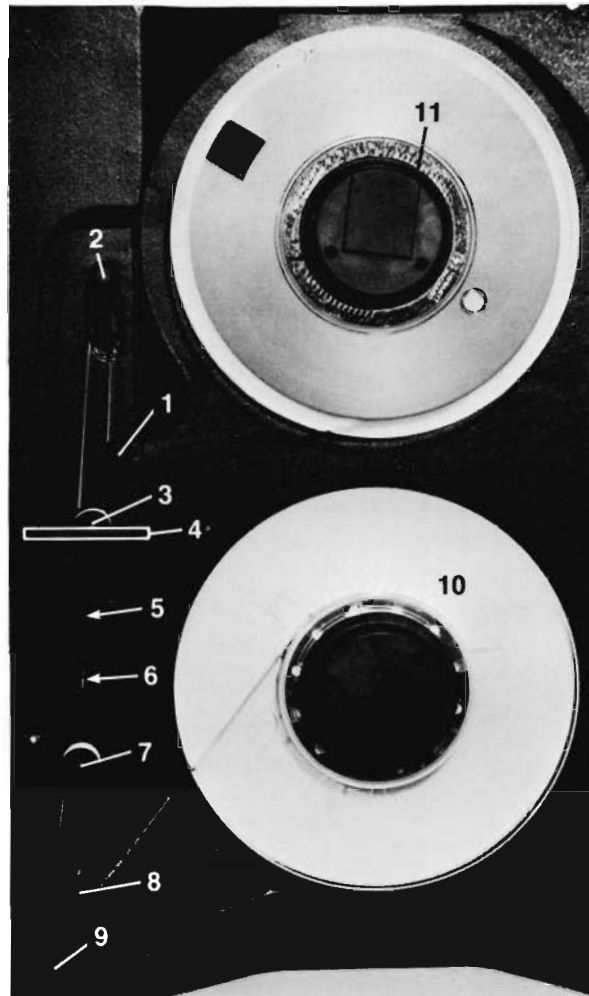

Figure 5-1. Cleaning Points
- c) While applying gentle pressure in the direction of tape path, clean the following surfaces. Give attention to the inner edges of rollers and guides. (Refer to Figure 5-1 for locations).
- (1) supply roller
- (2) buffer arm roller
- (3) top fixed guide
- (4) top horizontal surfaces on the head assembly enclosure
- (5) tape cleaner; clean scraping surfaces and inside debris traps
- (6) read/write/erase heads
- (7) bottom edge guide
- (8) speed sensor roller
(9) lower left corner of the casting